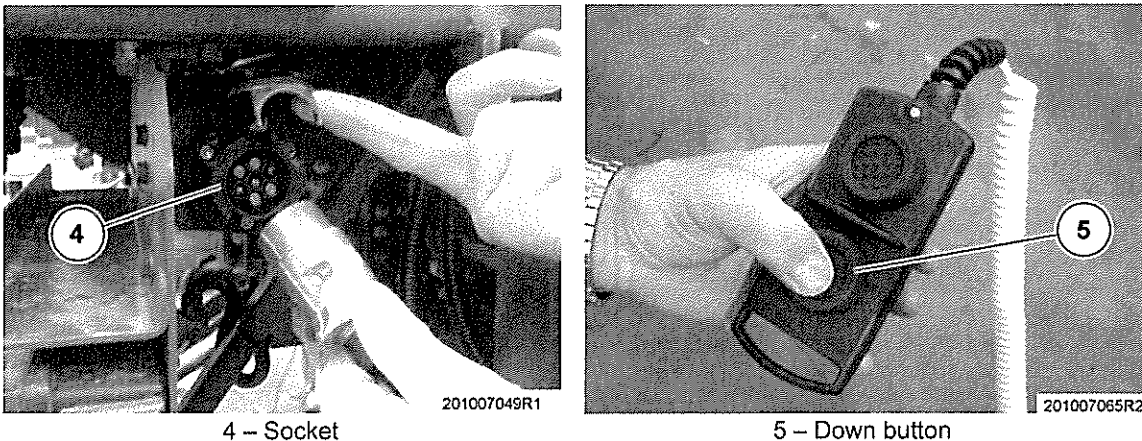

Fig 7 Lower the tail lift platform using the remote control
- 6 Refer to Fig 7. To lower the tail lift platform using the remote control, proceed as follows:
- 6.1 Connect the remote control to the socket (4) on the control side selected.